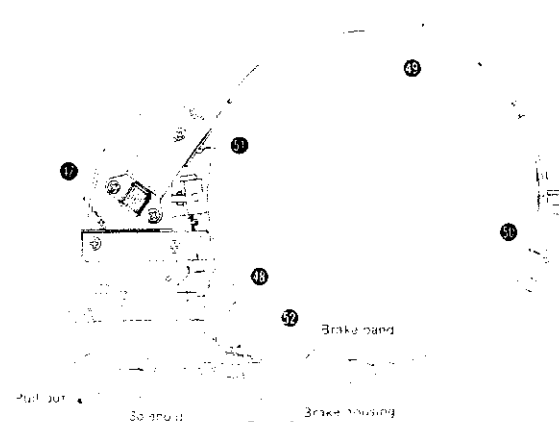

Fig. 12
4. Pull out the lead connector of the solenoid. (Fig. 12)
5. Remove the 4 setscrews (Fig. 12 : ⑧ ~ ⑪) of the brake and lift up the brake.
6. When removing the brake band, remove 2 setscrews (Fig. 12 : ⑫, ⑬).